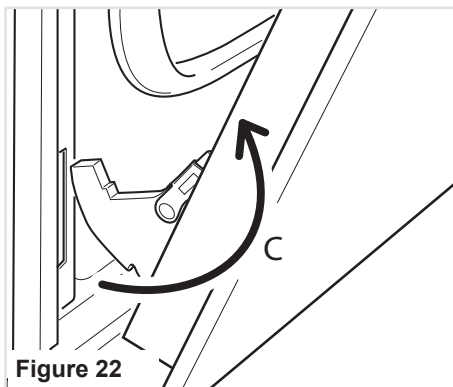

Figure 22
- Withdraw the hinge hooks from their location following arrow "C" (fig. 22).